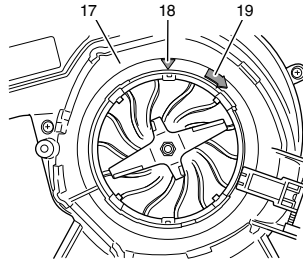
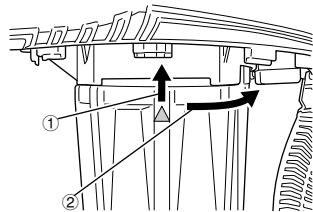

Fig. 6
Fig. 8
- Align the arrow(21) on the vacuum pipe (20) and the arrow (18) on the fan case (17) as shown Fig. 6. (Fig. 6, 7)
- Slide(1) the vacuum pipe into the fan case, and then rotate(2) the vacuum pipe clockwise(19) as shown Fig. 6 until it clicks. (Fig. 8)